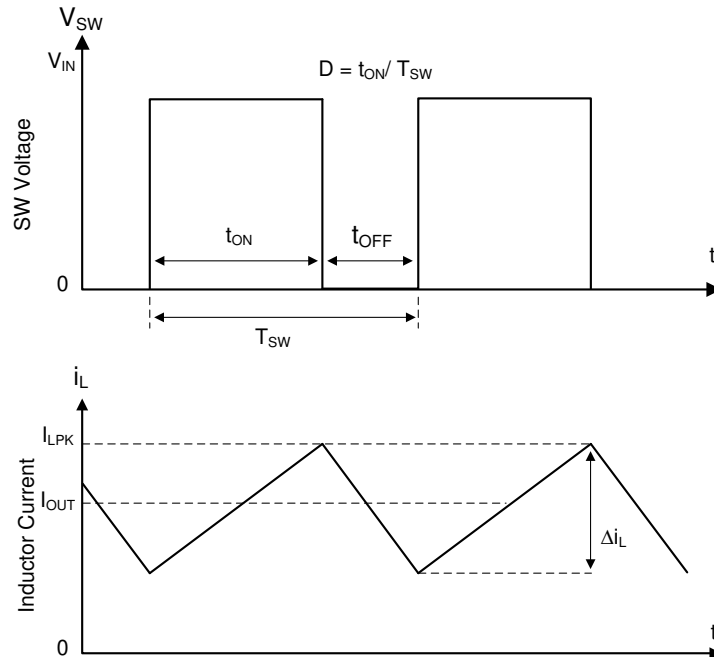

Figure 8-1. SW Node and Inductor Current Waveforms in Continuous Conduction Mode (CCM)
- Feedback and Error Amplifier:** The Error Amplifier (EA) receives REF (Reference) and FB (Feedback) signals. Its output is connected to a resistor network (Rc, Cc) and the PWM CONTROL LOGIC.
The following operating description of the LMR544xx refers to Section 8.2 and to the waveforms in Figure 8-1. The LMR544xx is a step-down synchronous buck converter with integrated high-side (HS) and low-side (LS) switches (synchronous rectifier). The LMR544xx supplies a regulated output voltage by turning on the high-side and low-side NMOS switches with controlled duty cycle. During high-side switch ON time, the SW pin voltage swings up to approximately V_{IN} , and the inductor current, I_L , increases with a linear slope of $(V_{IN} - V_{OUT}) / L$. When the high-side switch is turned off by the control logic, the low-side switch is turned on after an anti-shoot-through dead time. Inductor current discharges through the low-side switch with a slope of $-V_{OUT} / L$. The control parameter of a buck converter is defined as Duty Cycle $D = t_{ON} / T_{SW}$, where t_{ON} is the high-side switch ON time and T_{SW} is the switching period. The converter control loop maintains a constant output voltage by adjusting the duty cycle D . In an ideal buck converter, where losses are ignored, D is proportional to the output voltage and inversely proportional to the input voltage: $D = V_{OUT} / V_{IN}$.